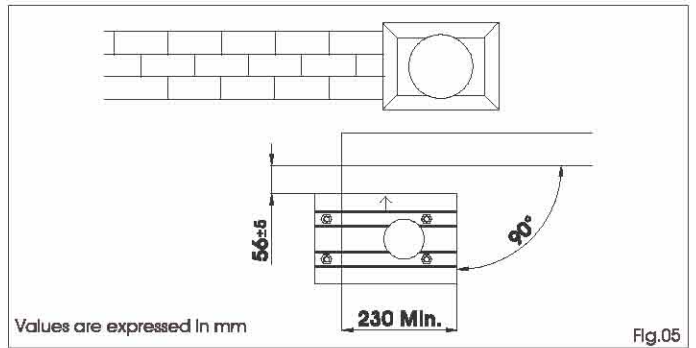
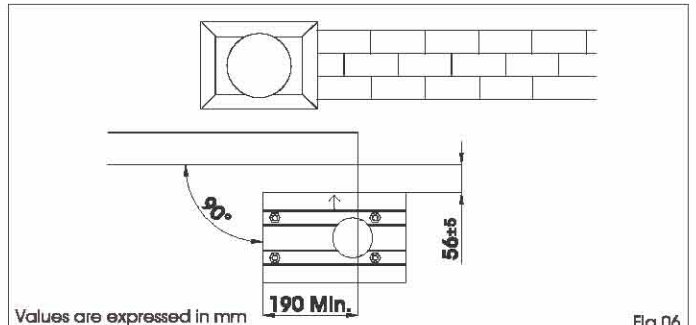

Fig.05
Fig.06
- 2- In order to ensure that the plinth and rack engage correctly, the foundation plate must be positioned as shown in Fig. 05 (right closing) or Fig. 06 (left closing).